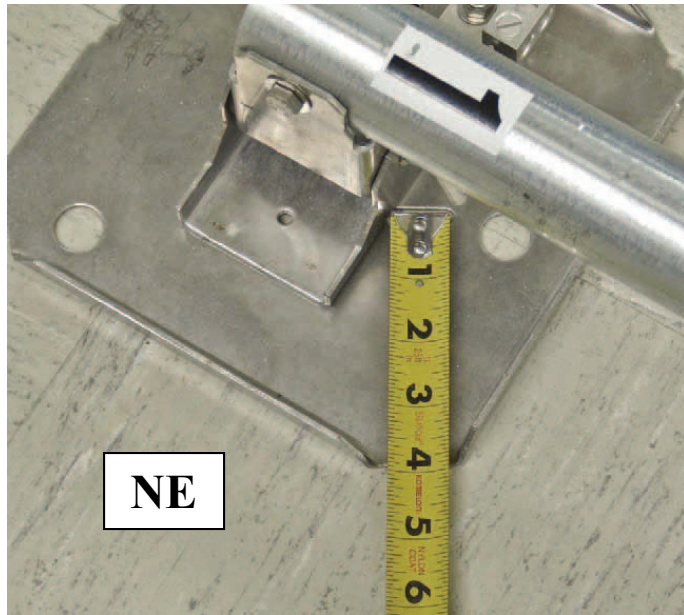

FIGURE 3-24. Tape measure in slot for Northeast anchor
Step 5: Repeat process for the NE (FIGURE 3-24) and NW anchors.